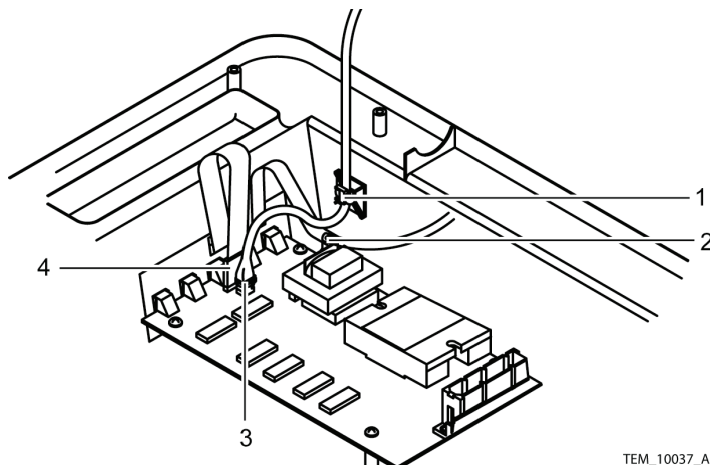

Figure 25. Cable Disconnect
12. Cut the cable tie securing the thermistor cable to the front cover assembly (Figure 25, item 1).
13. Remove the ground screw (Figure 25, item 2).
14. Cut the cable tie securing the thermistor cable connector (Figure 25, item 3) to the Control PCBA.
15. Disconnect the thermistor cable (Figure 25, item 3).
16. Disconnect the ribbon cable (Figure 25, item 4).